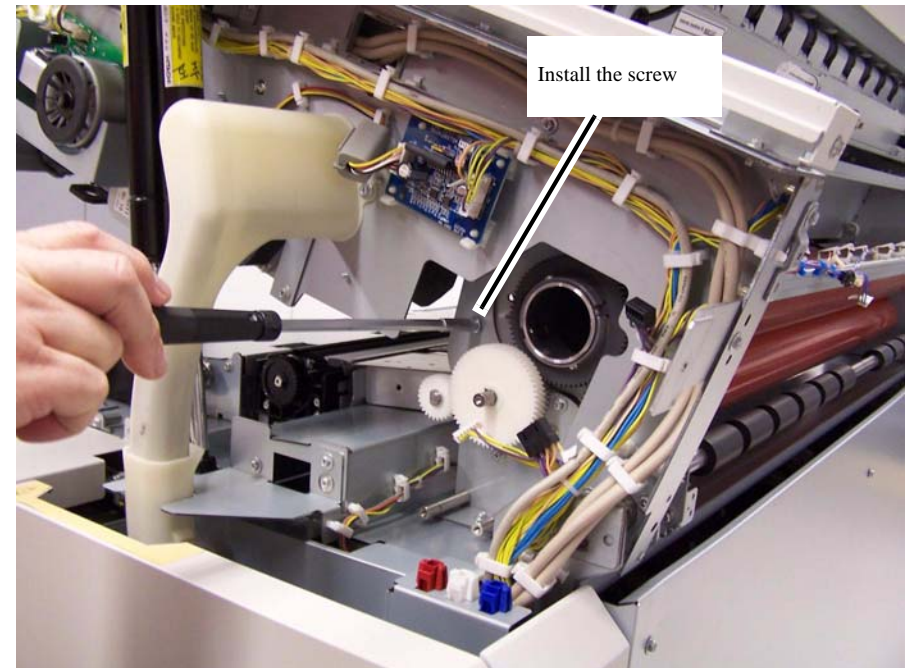
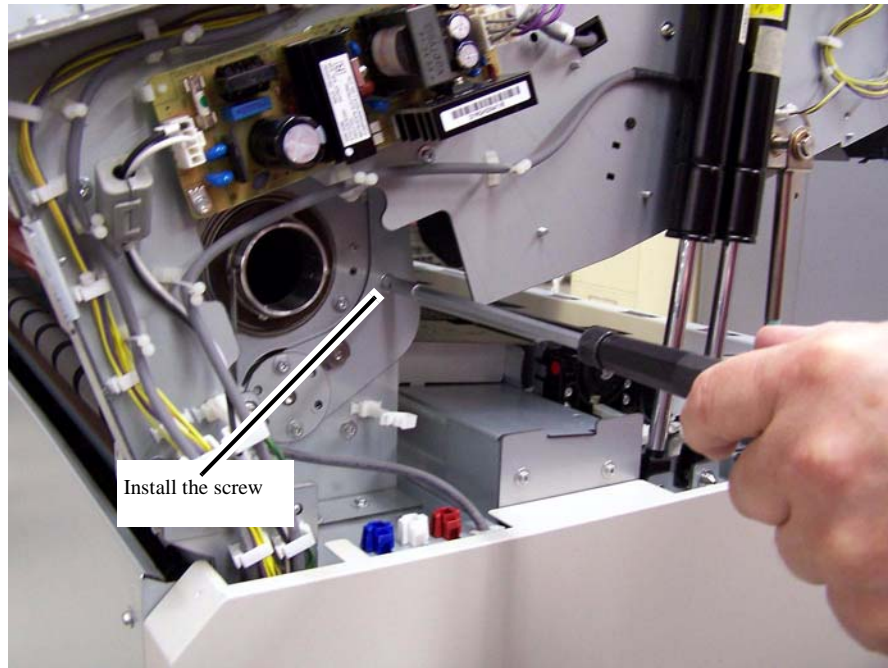

Figure 1 Setting the right side of the Fuser in the shipping position
Figure 2 Setting the left side of the Fuser in the shipping position
11. Using two (2) of the screws removed earlier in this procedure, set the Fuser in the shipping position (Figure 1 and Figure 2) to cam apart the Fuser Roll and the Pressure Roll.